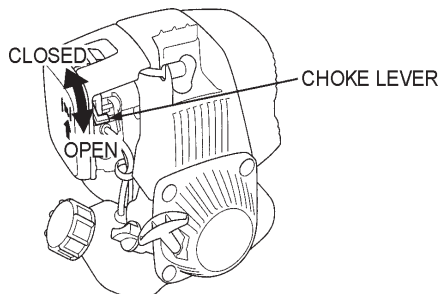

Figure 10. Choke Lever
1. To start a cold engine, move the choke lever (Figure 10) to the **CLOSED** position. If restarting a warm engine leave the choke lever in the **OPEN** position.